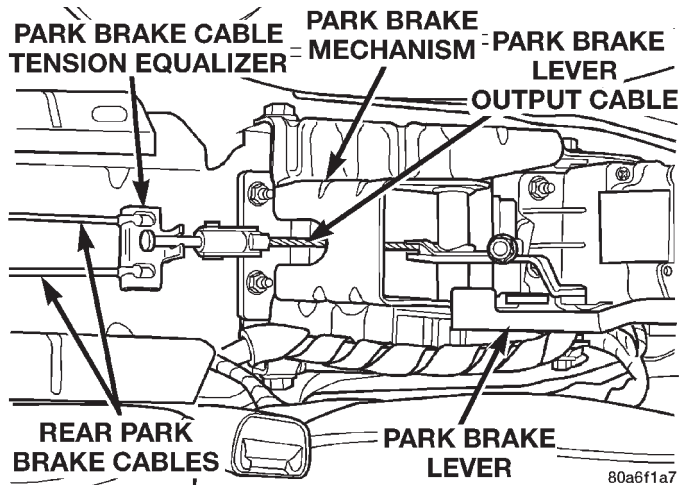

Fig. 164 Park Brake Cable Tension Equalizer
(14) Install a **NEW** park brake cable tension equalizer on the park brake lever output cable and rear park brake cables (Fig. 164).